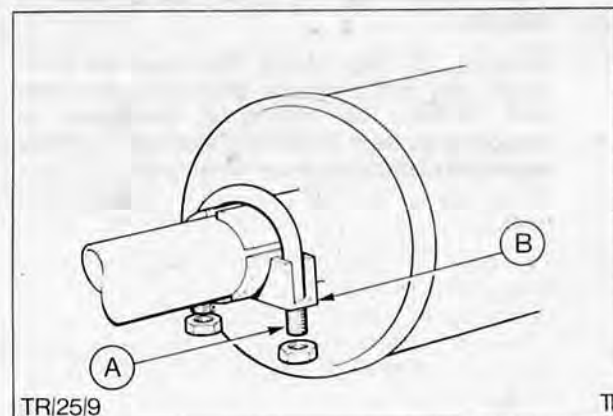

Fig. 11. Typical 'U' bolt clamp joint
15. Loosely secure joint between front and rear sections with 'U' bolt clamp, Fig. 11.